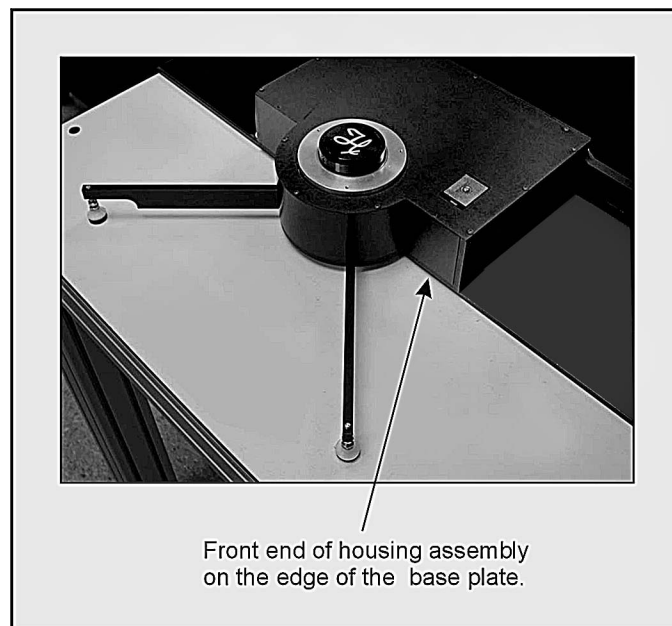

Figure 4: Carousel housing on base plate
1. Place the carousel housing assembly on the base plate, opposite the ML SWAP. Position the housing assembly so that the front end is near the edge of the base plate. See figure 4.